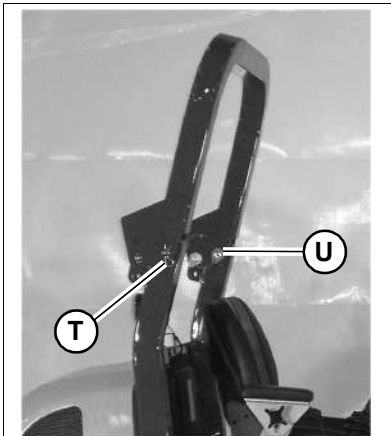

Figure 18 – ROPS Fully Raised
1. Remove the spring pins (both sides) (*T*, *Fig. 18*).
2. Remove the clevis pins (both sides) (*U*, *Fig. 18*).
1. Remove the cotter pins (*T*, *Fig. 18*) (both sides) from the clevis pins (both sides) (*U*, *Fig. 18*).